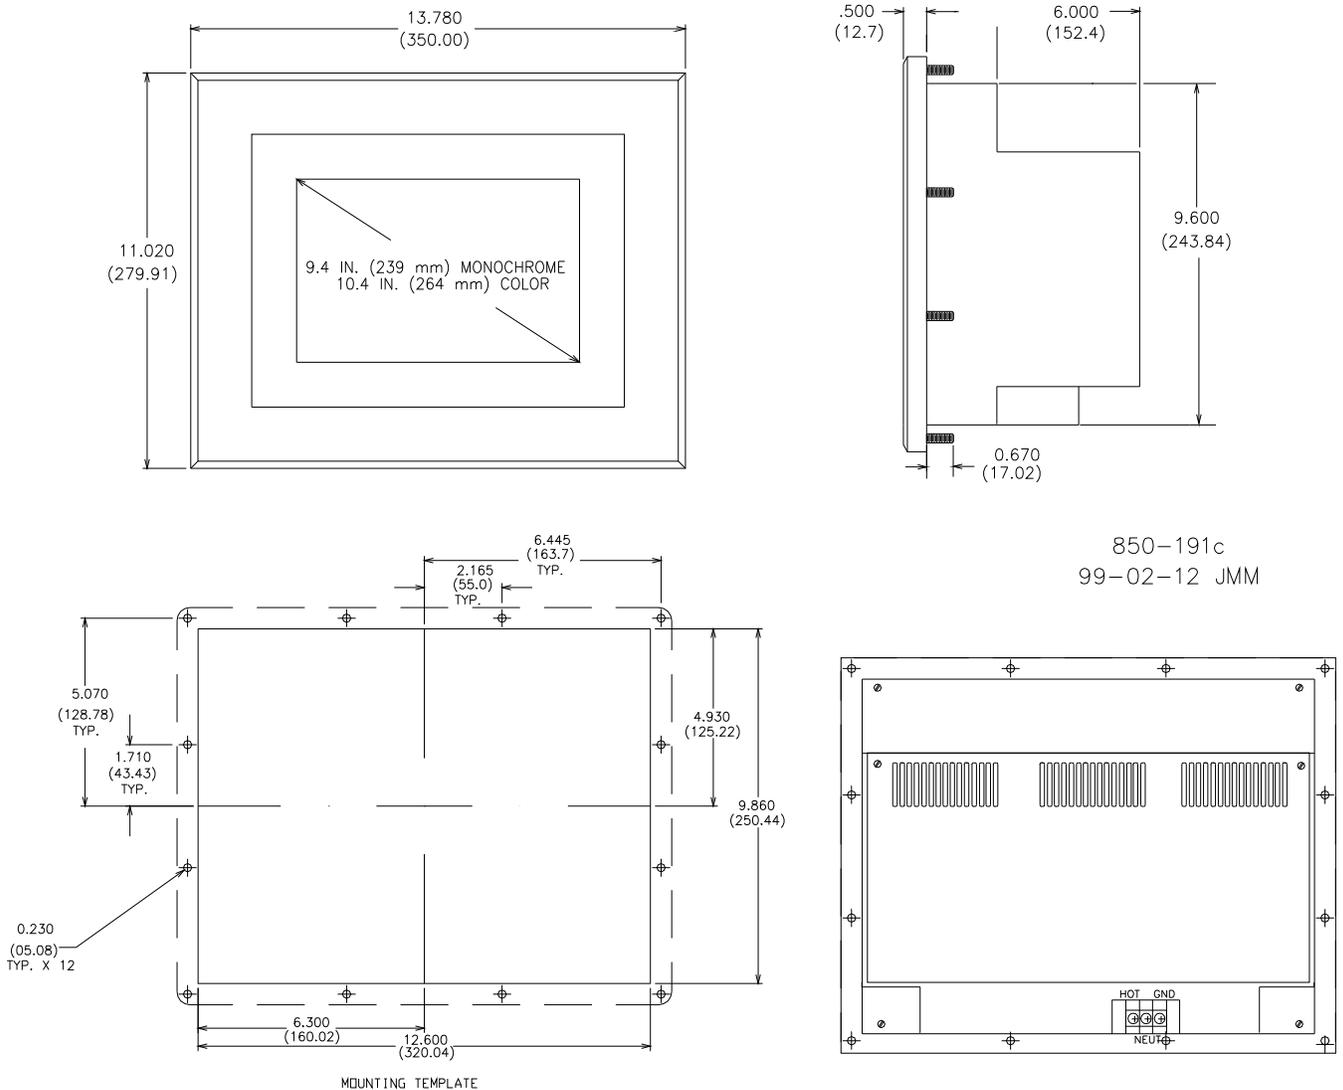

Figure 3-11. OpView Outline Drawing
1. Mark OpView mounting hole locations, taking care to leave sufficient space between the OpView and walls, objects, etc. for easy access and adequate air flow. See Figure 3-11. Reference PowerStation manual included for further installation instructions.
2. Drill mounting holes per Figure 3-11.